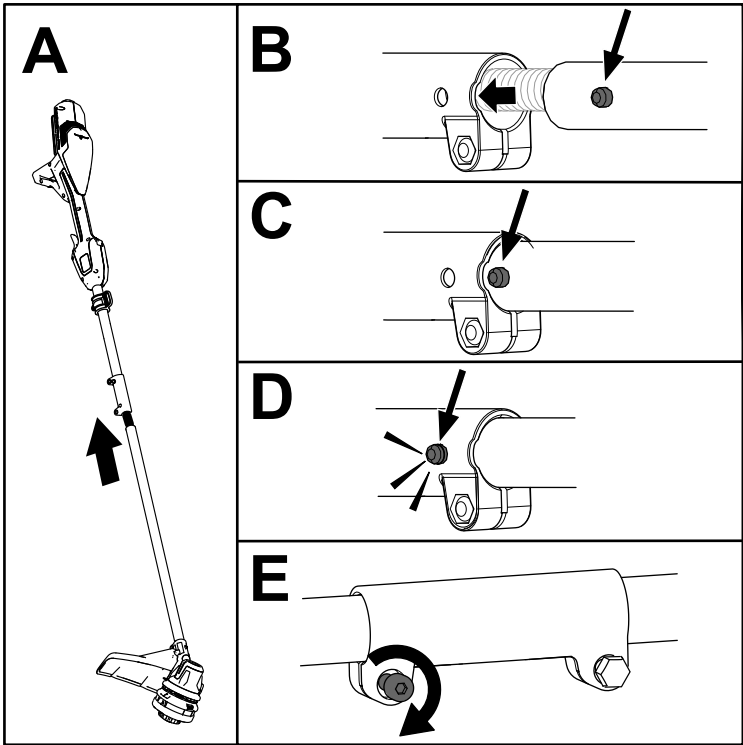

Figure 3
1. Unfold the handle (A of Figure 3).
2. Align the locking button on the lower shaft with the slotted hole on the upper shaft and slide the 2 shafts together (B and C of Figure 3).
Note: The locking button clicks into the slotted hole when the shafts are secured (D of Figure 3).
3. Using an Allen wrench, tighten the screw on the shaft connector until it is secure (E of Figure 3).